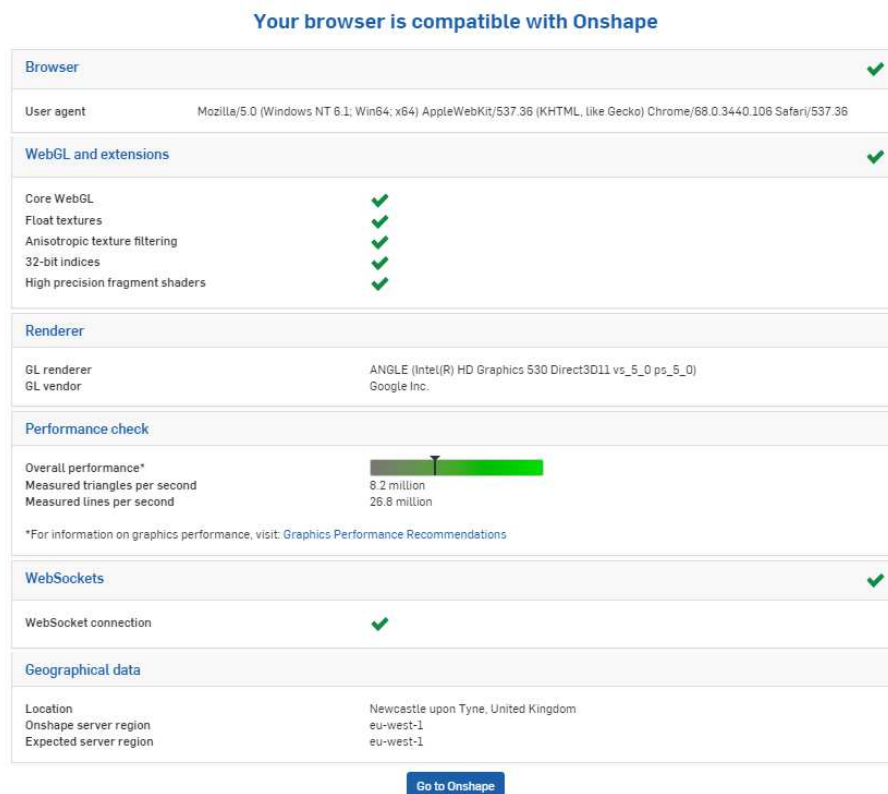

Figure 2.1: Basic browser compatibility.
- 1) It is recommended to check basic browser compatibility prior to running Onshape. This can be done from <https://cad.onshape.com/check>. If all tests yield positive results as shown in figure 2.1 below, the browser is capable of running Onshape.